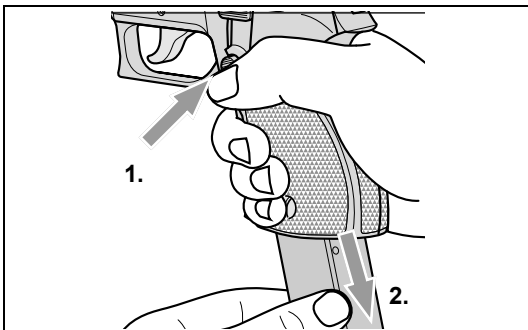

Fig. 2, Removing the magazine
1. Remove the empty magazine (see Fig. 2).
3. Actuate magazine catch **43** and remove the magazine (see Fig. 2).
- Actuate magazine catch **43** and remove the magazine (see Fig. 2).